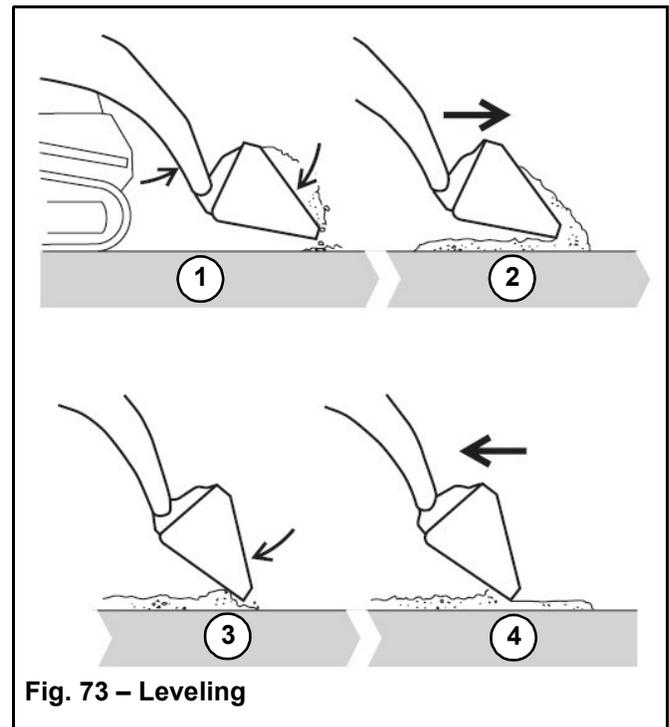

Fig. 73 – Leveling
1. Raise the bucket and tilt it forward (Fig. 73).